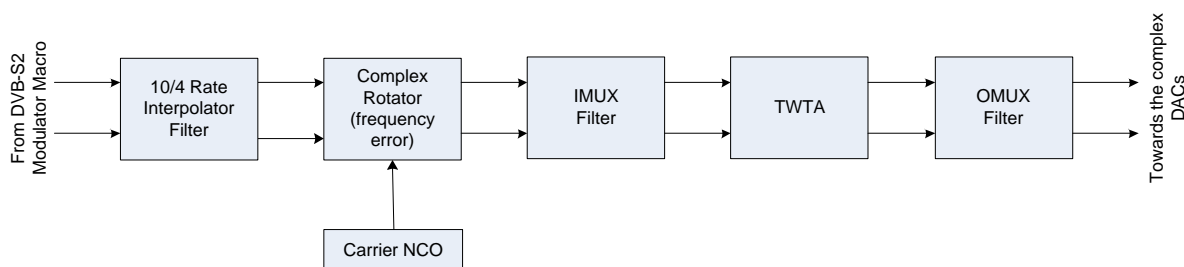

Fig. 3
- The Channel Emulator Macro modeled on the Modulator side is instead an optional and additional processing block aimed at modeling the TWTA non-linear AM-AM and AM-PM distortion the Group Delay distortion introduced by the Satellite Transponder through the IMUX and OMUX On Board filters. Its architecture is reported in Fig. 3. As it may be easily noticed due to the presence of IMUX and OMUX IIR Filters necessary to model the Group Delay distortion a rate update from 4 samples per symbols (sampling rate of the Modulator Macro as stand-alone part) to 10 samples per symbols is necessary. This explains why the Channel Modeler is supplied up to 27.5Msps corresponding to the existing Satellites TV Transponder by